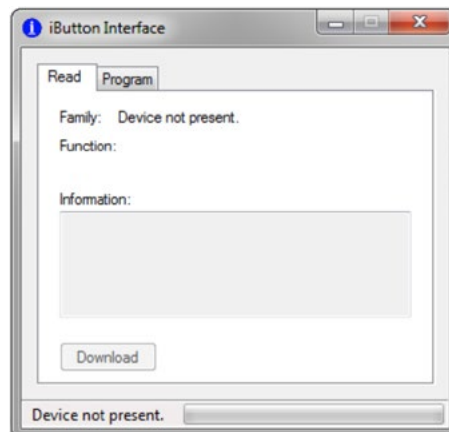

Figure 8
2. The dialog box below will appear (Figure 8).